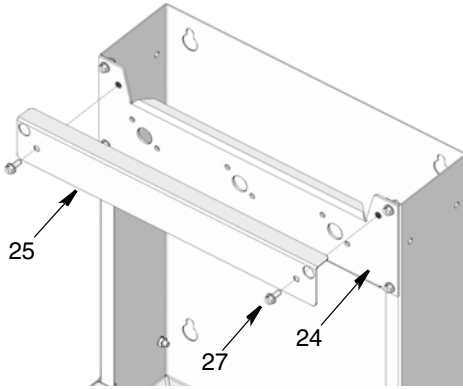

FIG. 19
4. Remove screws (27) and access panel (25) (see FIG. 19).